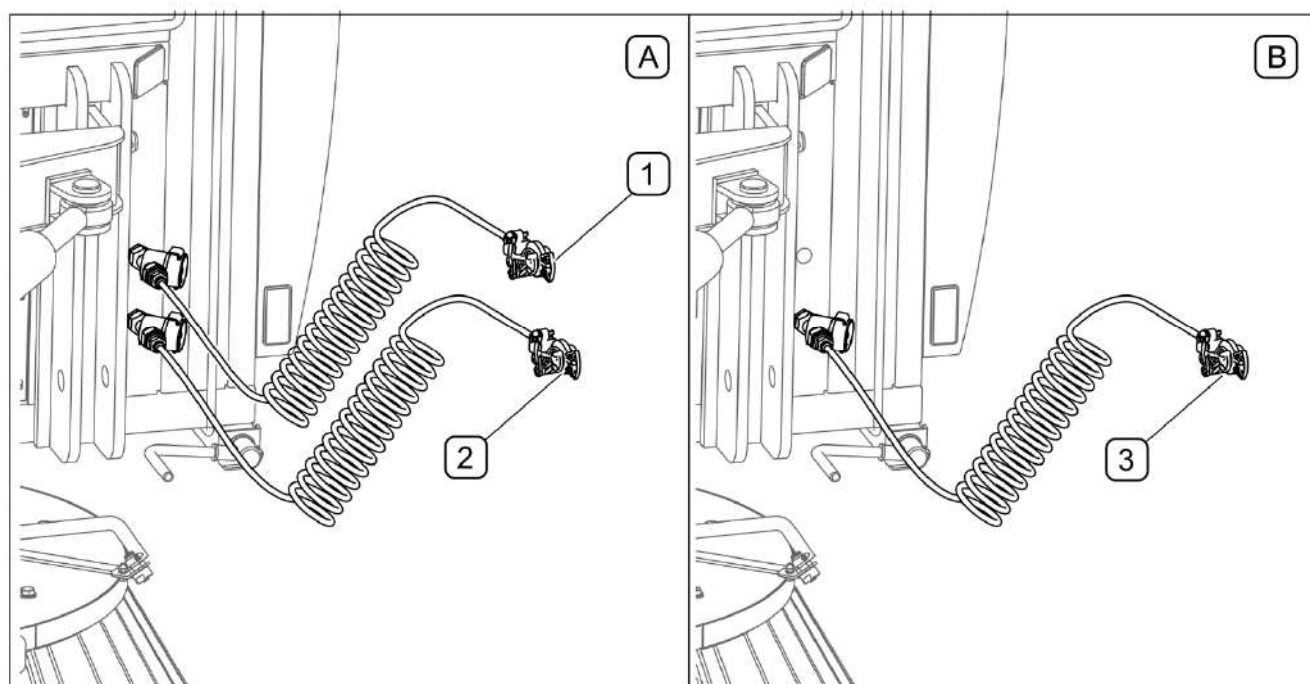

FIG. 4.4 Connection of pneumatic brake system
Depending on machine version, the sweeper can be equipped with double-conduit (A) or single-conduit (B) pneumatic brake system (FIG. 4.4). Securing connections are made from coloured plastic. The colours of these elements correspond to the colours of the connection sockets in the tractor: